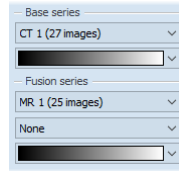

Figure 304 – Series and color map selection
1. Click the **Base series** combo box to select the primary series (see Figure 304).